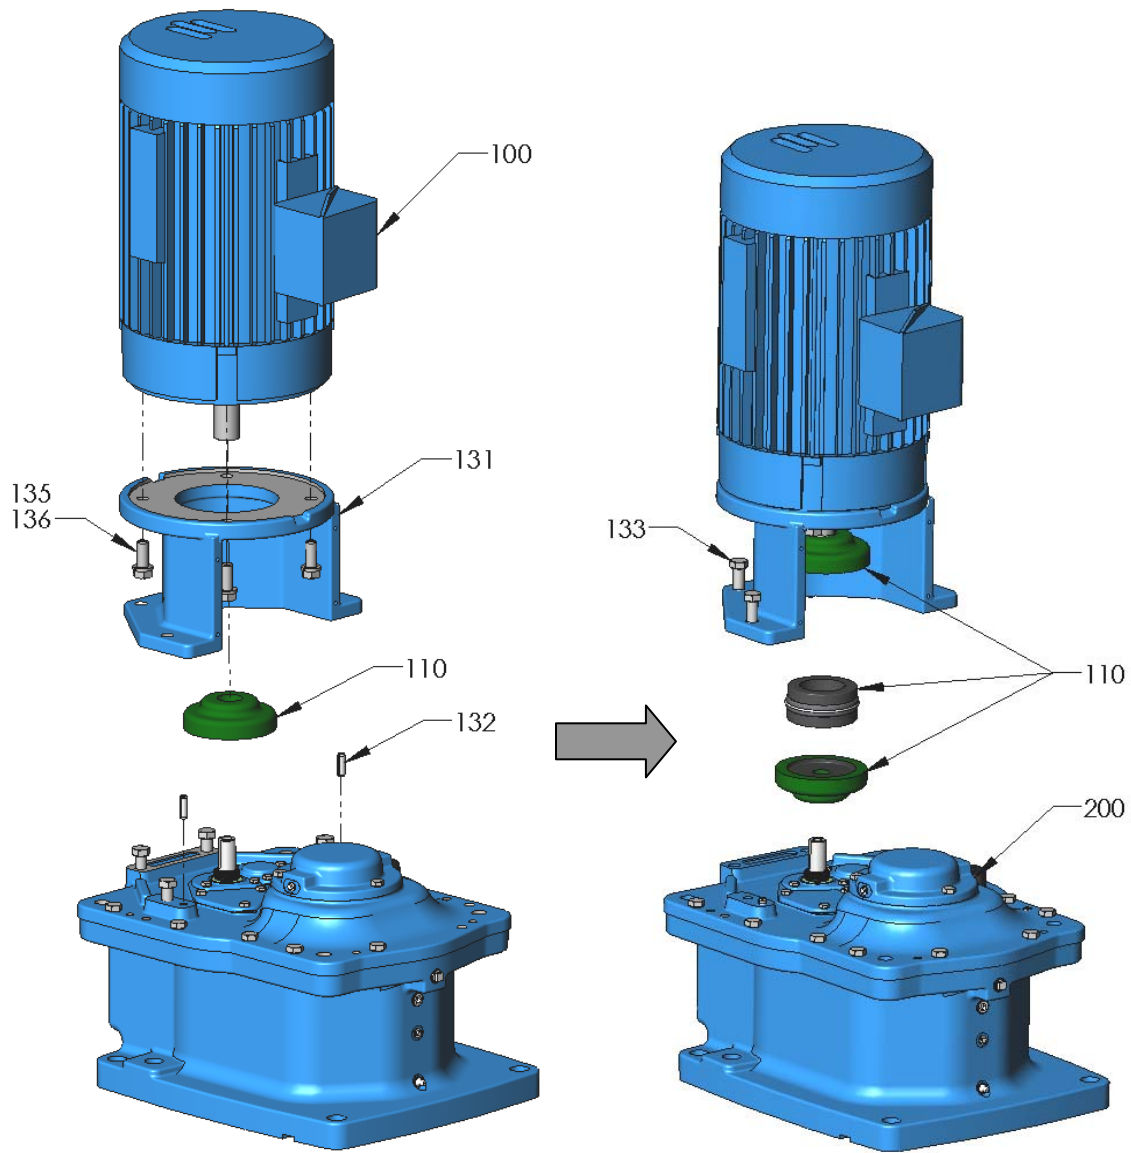

Figure 8. Model 20 GT – Motor Mounting
5. **For GT (Parallel Drive)**, see Figure 8, page 25: If not already installed by the factory, install alignment pins [132] onto the gearbox lid. Using a hoist system, lift motor/adapter assembly above gear drive and lower onto the alignment pins. Install bolts [133] to assemble the motor adapter onto the gear drive.